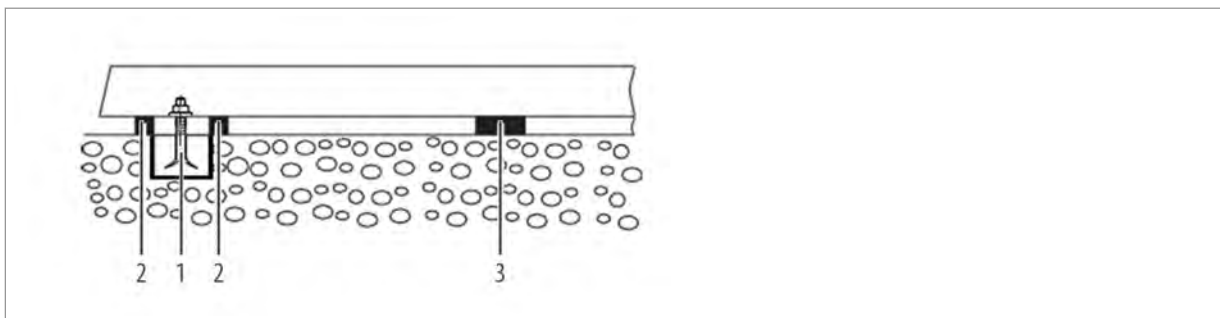

Fig. 13: Placing the pump assembly on the foundation
3. ➔ Hook the foundation bolts (no. 1 in Fig. 13) into the base plate fastening holes from below.
5. ➔ Sink the foundation bolts (no. 1 in Fig. 13) into the prepared anchor holes.
- To the left and right of each foundation bolt (no. 1 in Fig. 13), arrange one steel fixture (no. 2 in Fig. 13) respectively
- If the distance from the anchor holes is greater than 750 mm, locate additional steel fixtures (no. 3 in Fig. 13) centrally on either side of the base plate